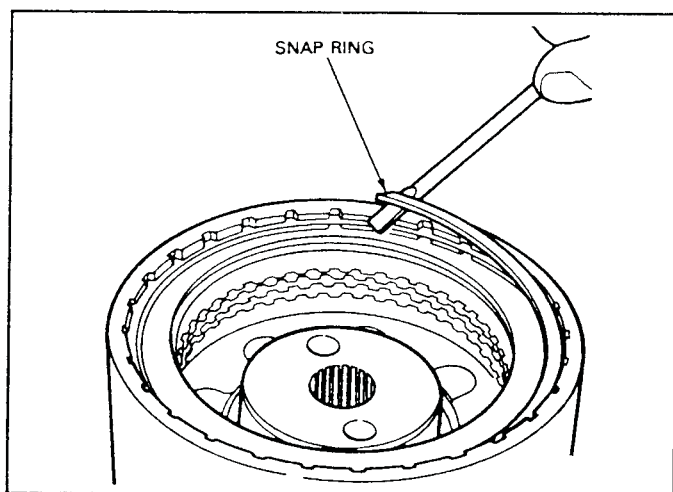

FIG. 47 Removing Forward Clutch Pressure Plate Snap Ring
1. Remove the clutch pressure plate snap ring (Fig. 47).